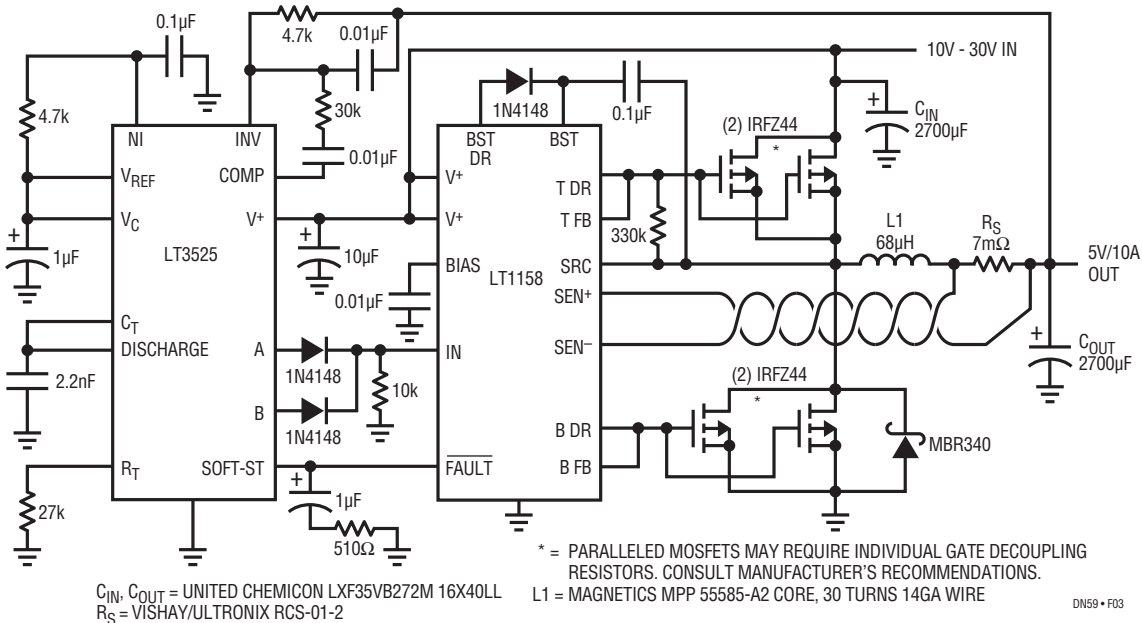

Figure 3. High Efficiency 50W DC/DC Converter
In the Figure 3 circuit an LT3525 provides a voltage mode PWM to drive the LT1158 input pin. The LT1158 drives
(2) 28mΩ power MOSFETs for each switch, reducing individual device dissipation to 0.7W worst case. This eliminates the need for heat sinks for operation up to 10A at a temperature of 50°C ambient. The inductor and current shunt losses for the Figure 3 circuit are 1.2W and 0.7W respectively at 10A.
An additional loss potentially larger than those already mentioned results from the gate charge being delivered to multiple large MOSFETs at the switching frequency. This driver loss can only be controlled by running the oscillator at as low a frequency as practical—in the case of the Figure 3 circuit, 25kHz. A very low ESR (<20mΩ) output capacitor is used to limit output ripple to less than 50mVp-p with 2.5Ap-p ripple current.
The LT1158 also provides current limit for DC/DC converter applications. When the voltage across R_S exceeds 110mV, the LT1158 fault pin conducts, and assumes control of the PWM duty cycle. This provides true current mode short-circuit protection with soft recovery. The Figure 3 regulator current limit is set at 15A which raises the dissipation in each bottom MOSFET to 1.7W during a short. Therefore 30°C/W heat sinking must be added for the bottom side MOSFETs if continuous short-circuit operation is required. Care should also be taken when routing the sense+ and sense- leads to prevent coupling from the inductor.